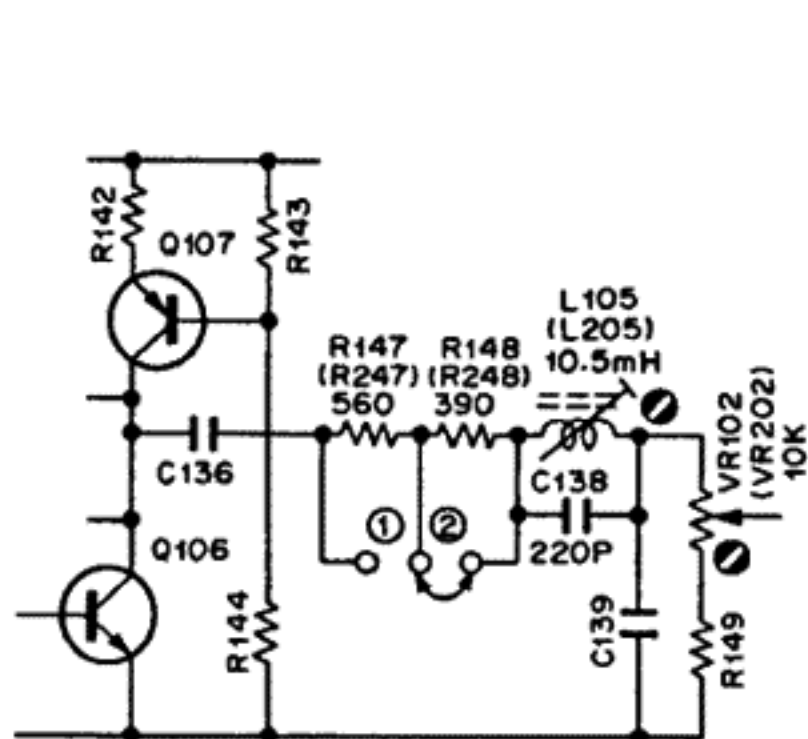

Fig. 7.5
Main P.C.B. R147, R247 R148, R248	<ol style="list-style-type: none"> Load the 400 Hz level tape and play it back. Adjust the output level control to a certain level (example 0 dB). Load the 10 kHz, 15 kHz and 20 kHz PB frequency response tapes and adjust the playback head azimuth to give maximum levels on the VTVM with each tape. Short R147 (R247) and/or R148 (R248) to obtain the following level against 400 Hz level tape. Refer to Fig. 7.5. 10 kHz: - 20 dB -1 dB to +2 dB 15 kHz: - 20 dB -1 dB to +3 dB 20 kHz: - 20 dB -1 dB to +4 dB Conduct step 6 "Playback Head Azimuth Alignment". If above is not sufficient, refer to "Playback Frequency Response Adjustment" in item 7.2.1.